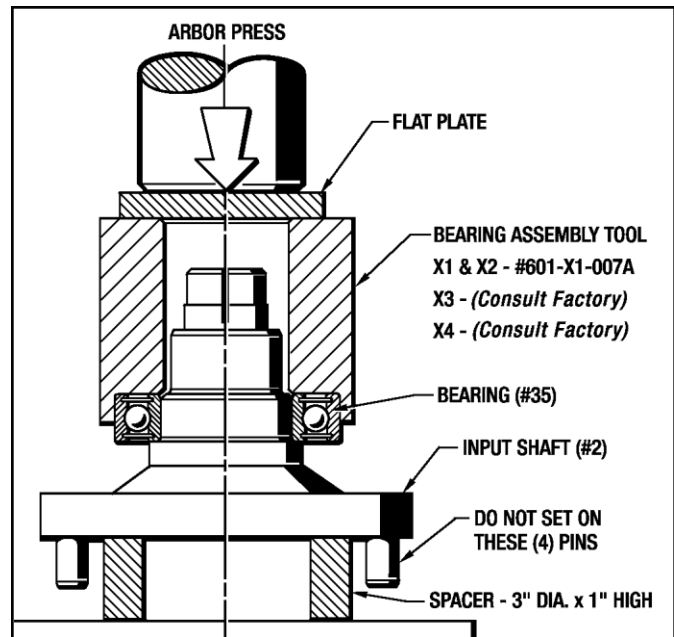

Figure 9.7 - Installing Bearing (#35)
1. Install the Bearing (#35) on to the Input Shaft (#2) with an Arbor Press and the appropriate Bearing Assembly Tool as shown in Figure 9.7.